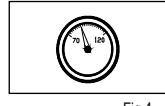

Fig.4
- Regulate the air pressure to obtain 70 PSI (4.8 bar) at the tool. (See Fig. 4)